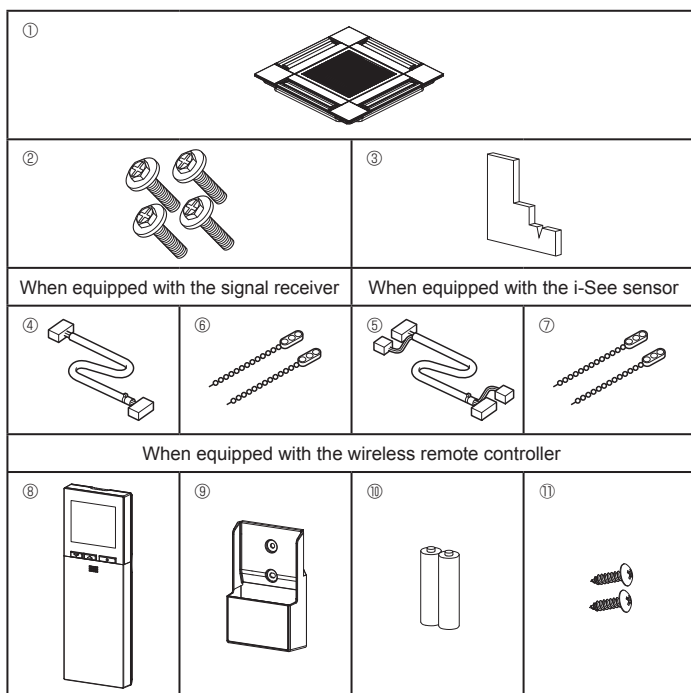

Fig. 5-1
5.1. Check the grille accessories (Fig. 5-1)